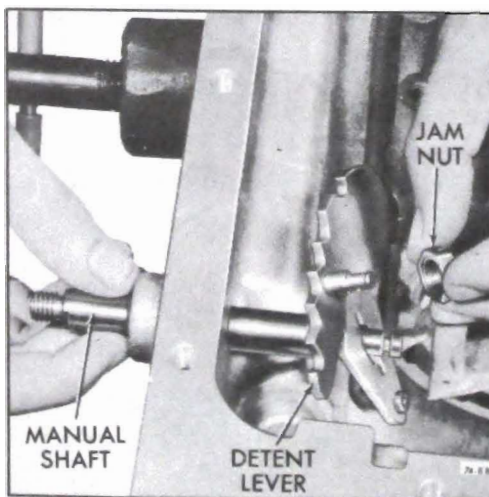

Figure 76-768
5. Install retaining hex-lock nut on manual shaft. See Figure 76-768.